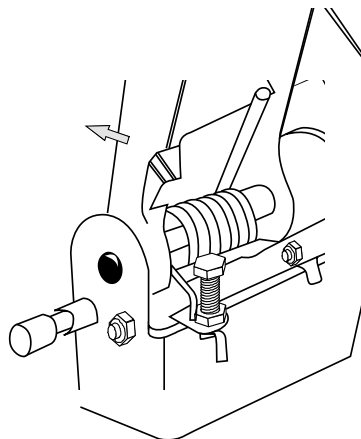

Figure 12
1. Lower the swing arm as far as it will go. (Figure 12)